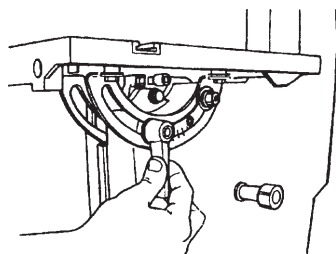

Fig. 18
17. Loosen and return the Bandsaw's trunnion to "0", where the table is supposed to be perpendicular to the blade. Lock the trunnion. See Fig. 18.